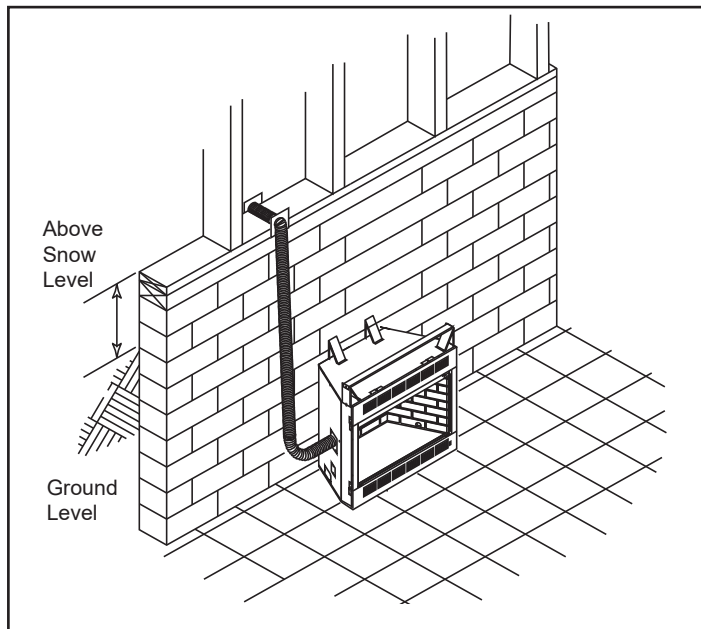

Figure 2 Basement Installation
6. Avoid extremely long runs and numerous turns in the duct leading from the firebox to the outside air inlet hood. These conditions increase the resistance to the free flow of air through the duct. *Refer to Figures 2 through 5 for methods of installing the outside air kit.*